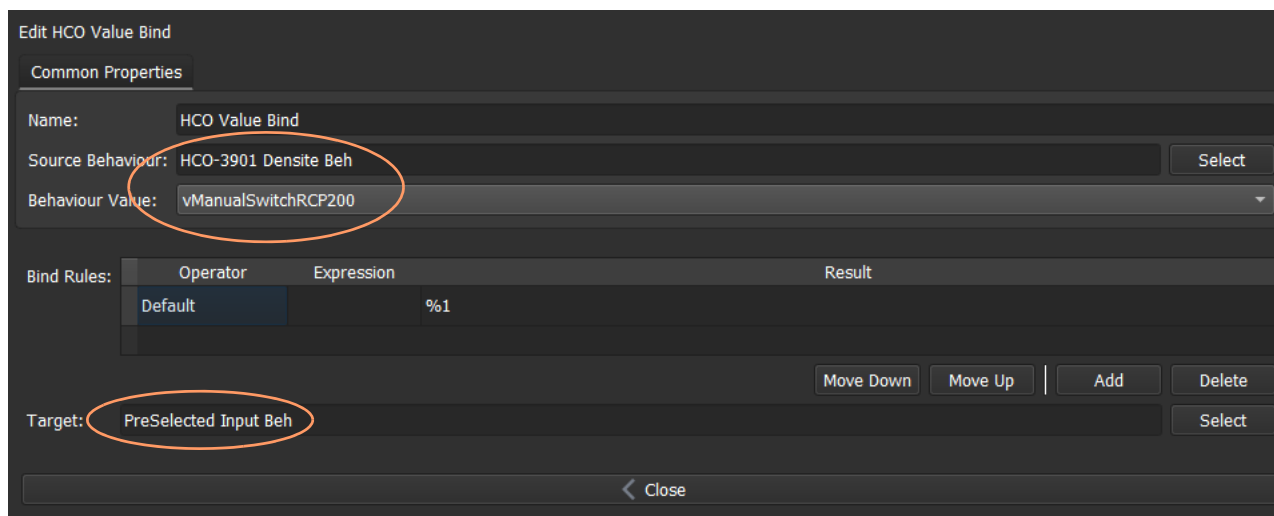

Fig. 8-43: Mapped Binding Configured
- 9 Add a **Mapped** Binding and configure it as shown in Figure 8-43.